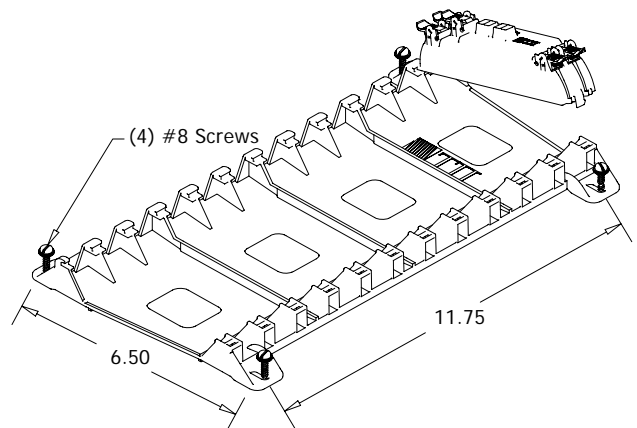

Figure 2
3. Mount the SVN-12 panel with the hardware supplied. Refer to Figure 2 for SVN-12 mounting dimensions. If the SVN-12 panel is already installed, identify the position in which the tii 89 module is to be installed.
4. Holding the module on an angle as shown in Figure 2, engage the left side fingers under the catch on the SVN-12 panel. Slowly lower the module and align the latch with the panel and engage module to the panel. Confirm that the module is securely engaged to the panel.